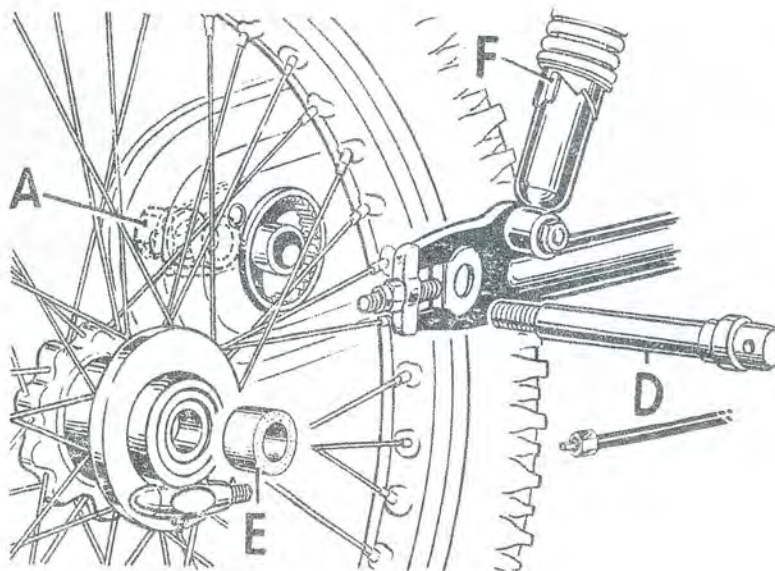

FIG. F.5. Removal of rear wheel.
Disconnect the speedometer drive cable at the hub then unscrew and withdraw the wheel spindle (D) Fig. F.5, using a suitable steel bar through the head. It has a normal right-hand thread and is therefore unscrewed in an anti-clockwise direction.